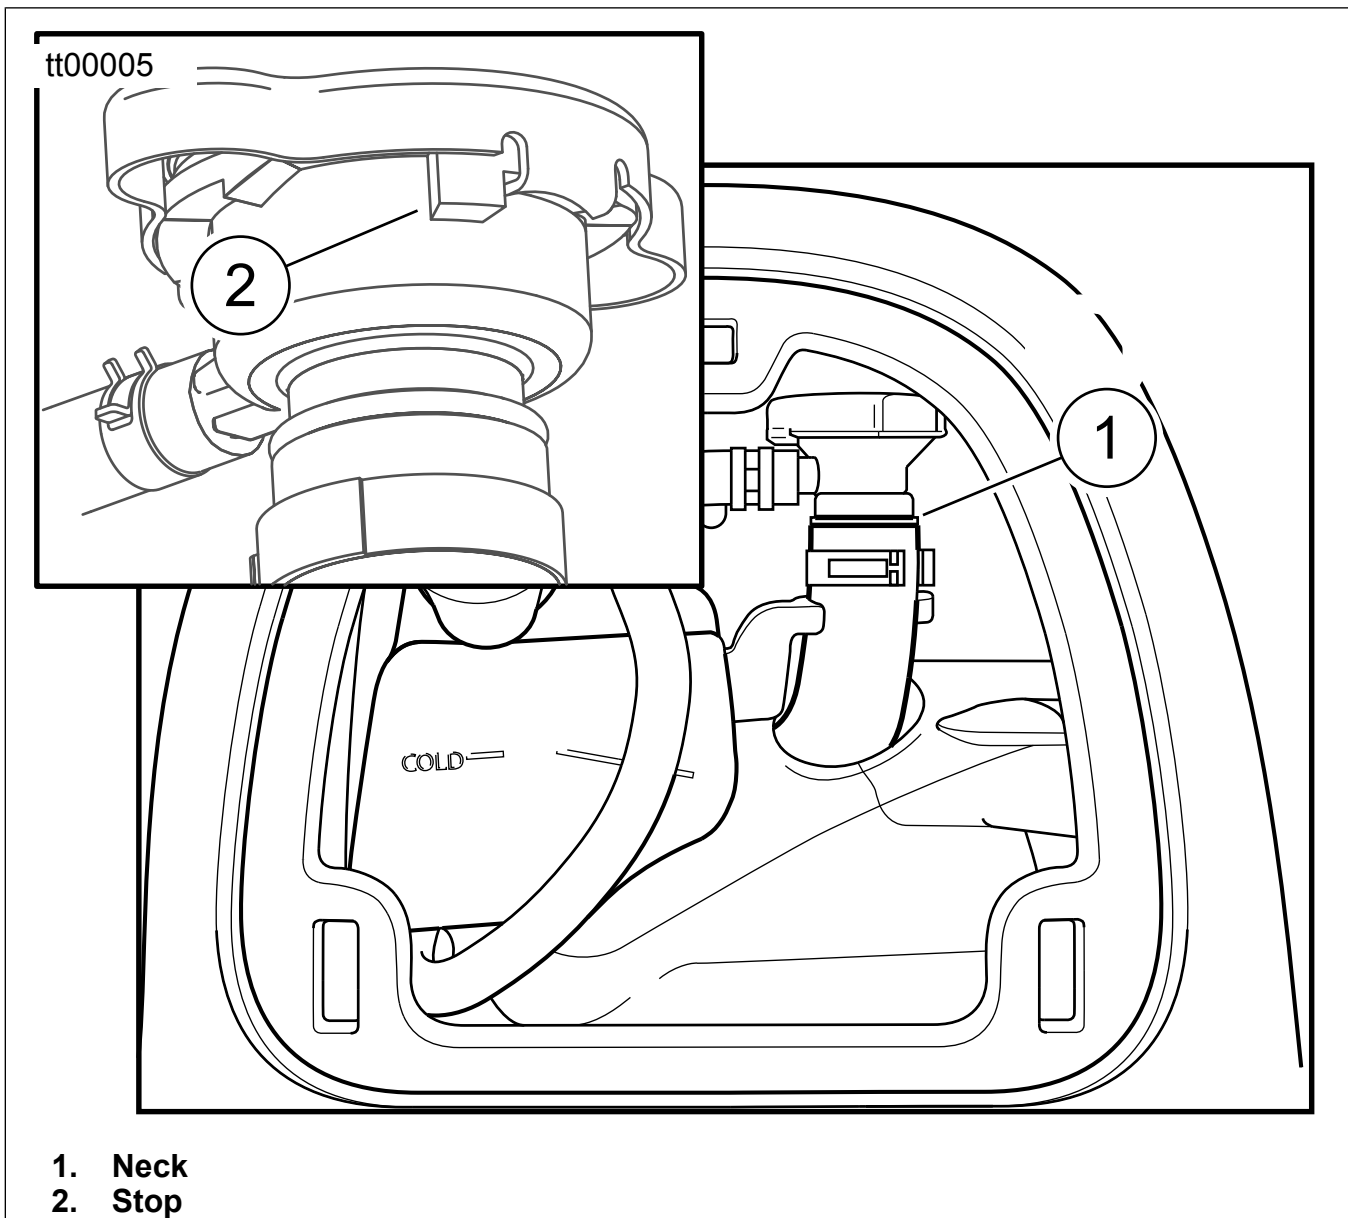

Figure 1. Coolant Filler Cap
Note that a loose pressure cap can easily be misdiagnosed. See Figure 1. You MUST visually confirm that the ears on the cap are against the stop (2) on the neck. If the cap is loose, it allows the system to boil. Checking the cap is covered in the PDI (Predelivery Inspection) manual.
3. See Figure 1. Verify that the pressure cap is fully tightened to the stop (2).